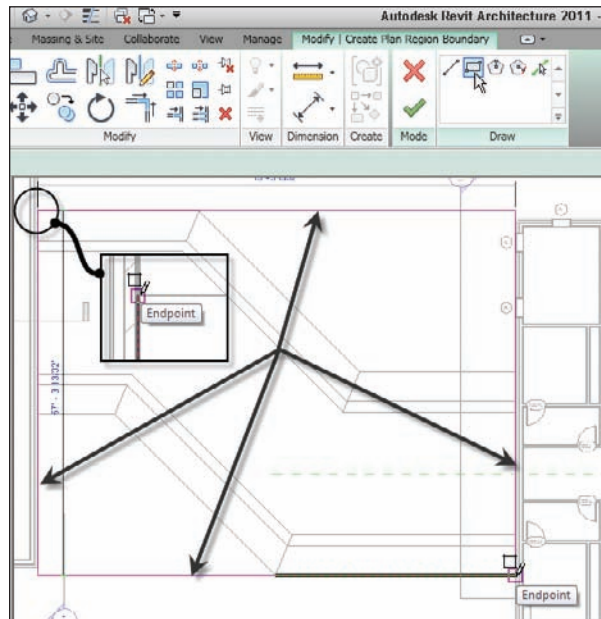

FIGURE 7.35 Creating the rectangle that forms the perimeter of the plan region
3. On the Draw panel, select the Rectangle button, as shown in Figure 7.35.
4. Draw a rectangle around the corridor, as shown in Figure 7.35. Be sure to snap to the exact points where the corridor walls meet the taller walls on the east and west wings.